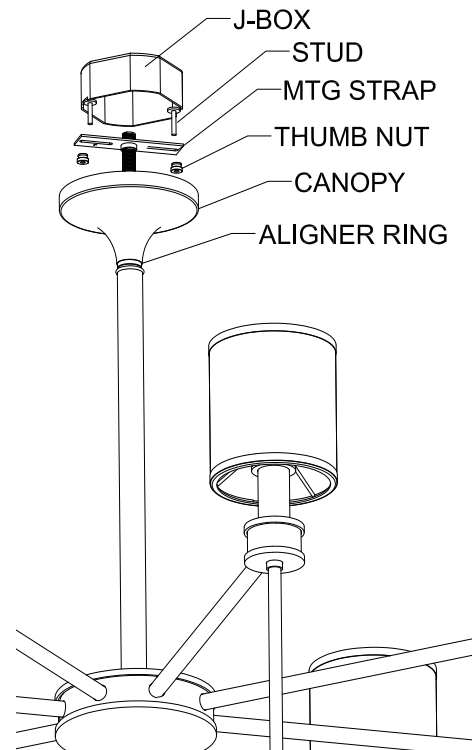

Figure 3
Step 10 Loosen and slide aligner nut and canopy down the neck to expose the mounting strap hardware during installation. (See Figure 3)
Step 11 Carefully lift the chandelier towards the junction box and align the threaded studs with the slotted holes in the mounting strap. Secure the mounting strap onto the junction box with thumb nuts. (See Figure 3)
Step 13 Slide canopy up to the ceiling and secure in place with aligner nut. (See Figure 3)